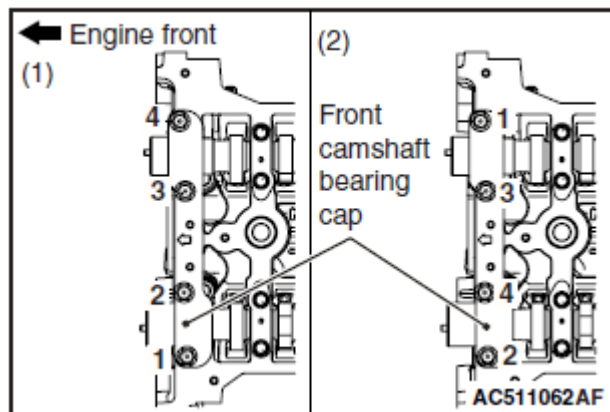

Fig. 68: Identifying Front Camshaft Bearing Cap Mounting Bolts Tightening Sequence
1. Install the front camshaft bearing cap to the cylinder head, and temporarily tighten the front camshaft bearing cap mounting bolts to the specified torque in the order (1 in **Fig. 68**).
2. Tighten the front camshaft bearing cap mounting bolts again to the specified torque in the order (2 in **Fig. 68**).